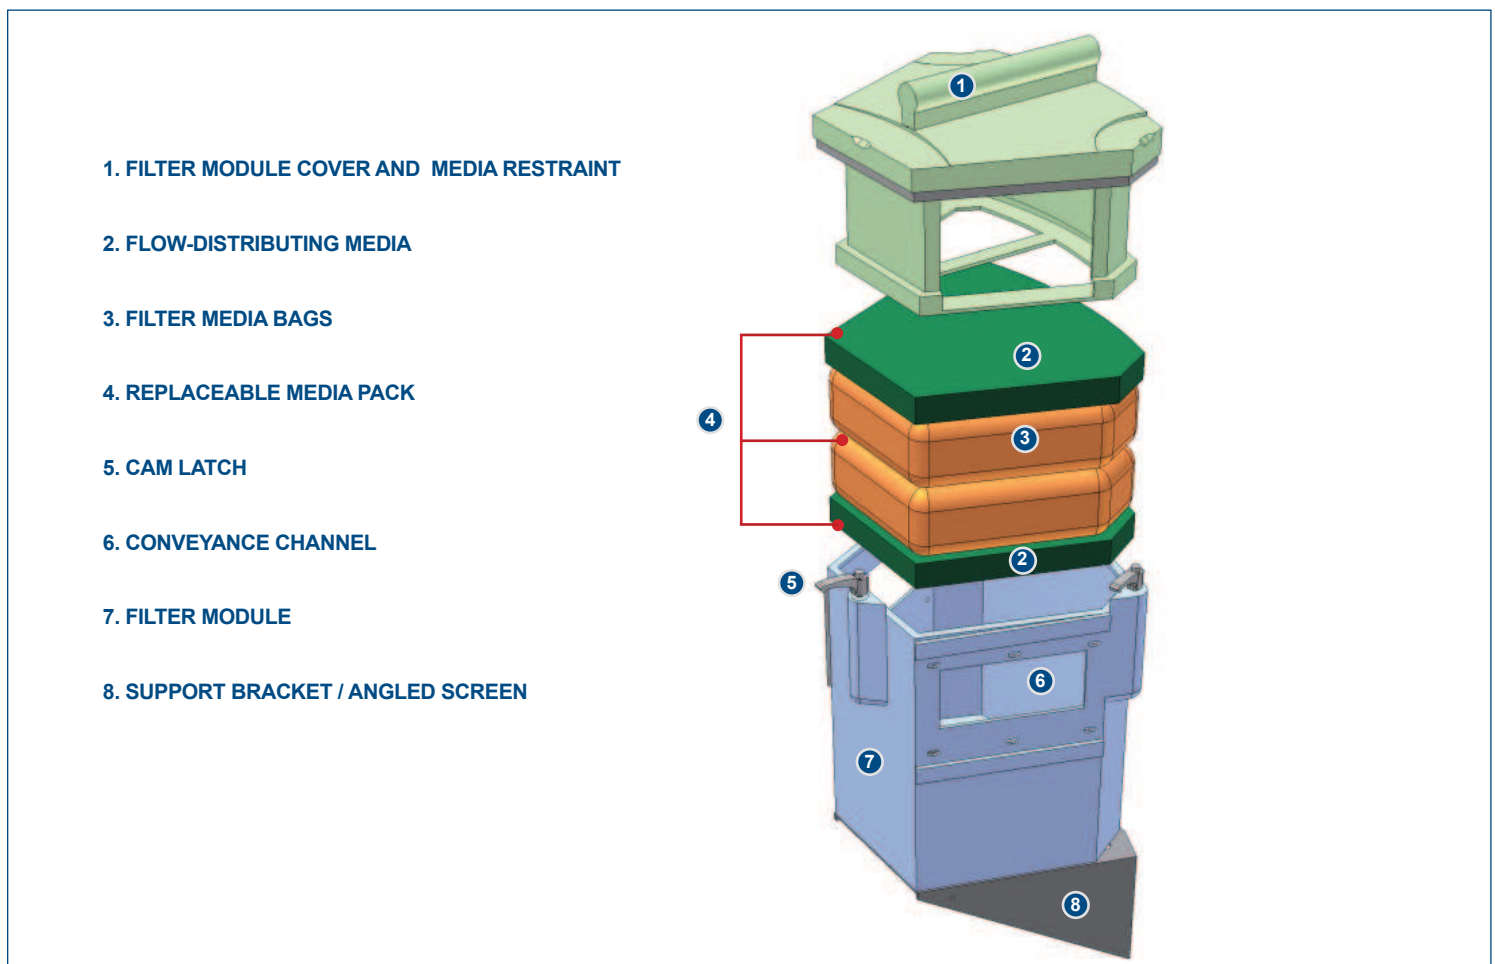

Figure 6: The Filter Module houses the Media Restraint and the Media Pack
3. Open the Filter Module by turning the three cam latches on the front and sides of the module. Remove the lid **1** to gain access to the Media Pack (Figure 6).
- Two (2) Media Bags **3** equipped with nylon handles.